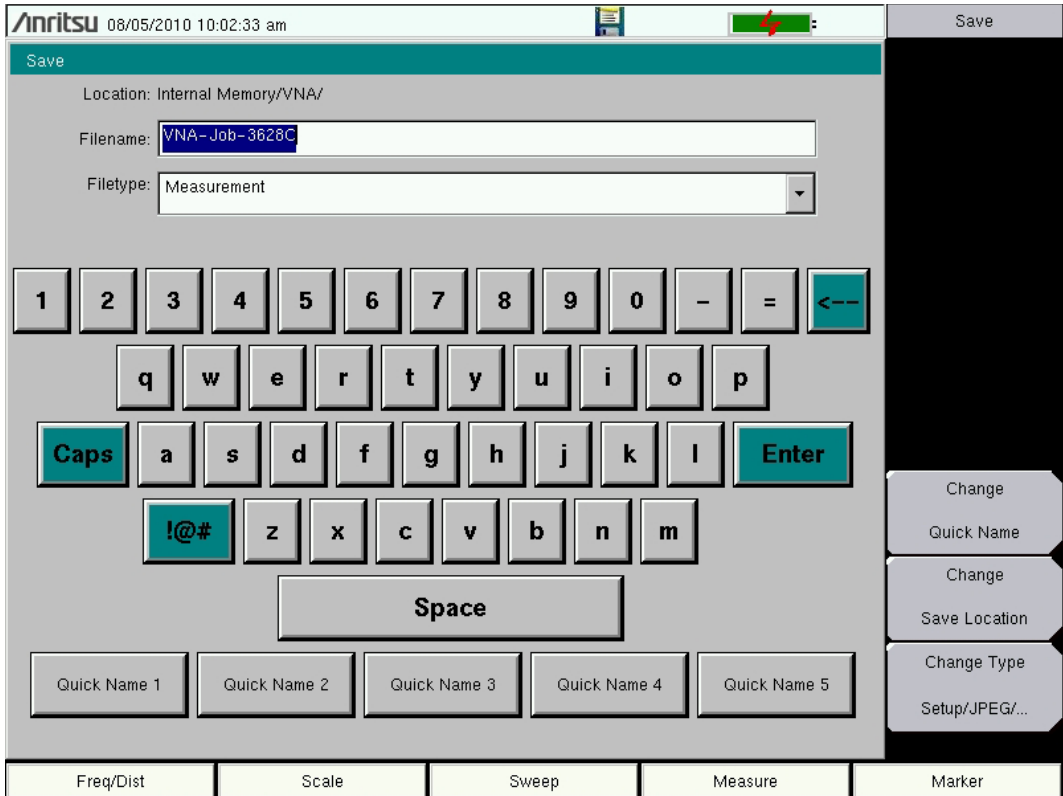

Figure 4-1. Save Dialog Box
The **Save Measurement As** key is used to quickly save measurements with a specific file name. The VNA Master saves the measurement with the latest file name that was used to save a measurement and with a number that is automatically incremented and appended to the end of the file name. For instance, if the last measurement was saved with the name **System Return Loss**, **Save Measurement As** saves the next measurement as **System Return Loss_#1**, **System Return Loss_#2** etc. The file name used can be changed using the **Save** dialog box (Figure 4-1).
The save dialog box (Figure 4-1) is used to store files on the internal memory or an external flash drive. The file type, file name, and save location are set starting with this display. Refer to “Save Menu” on page 4-9 and “Save Location Menu” on page 4-10 for details.
Quick Name keys (located below the keyboard in Figure 4-1) allow you to enter quick names for frequently used parts of file measurement names. To edit the keys, press the **Shift** button, then the **File (7)** button. Press **Save** then the **Change Quick Name** key, and select one of the Quick Names for editing. Press **Enter** and enter the new name for the key. Press **Enter** again, and the new name is displayed on the Quick Name key.